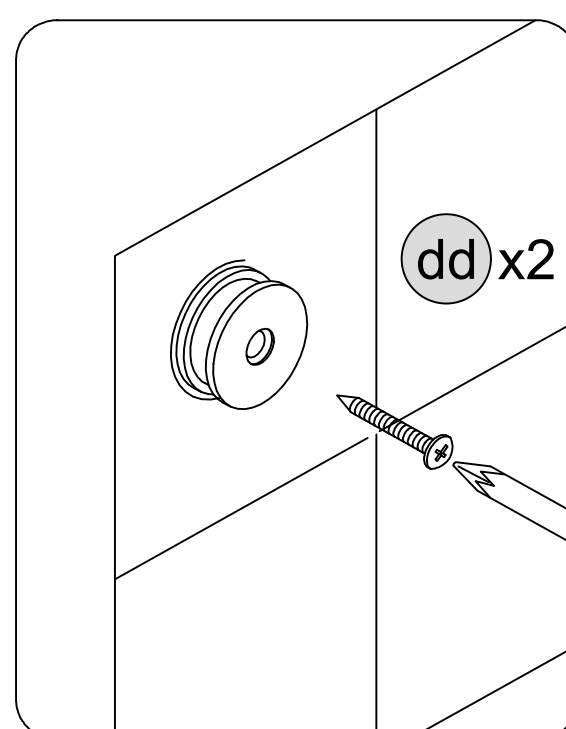

Fig 9
6. Fasten the **Wall Bracket (H)** to the wall using the **ST4×30 Screw (dd)**. Tighten the screws on **Guide Rail Bracket (H)**. **(Fig 9)**